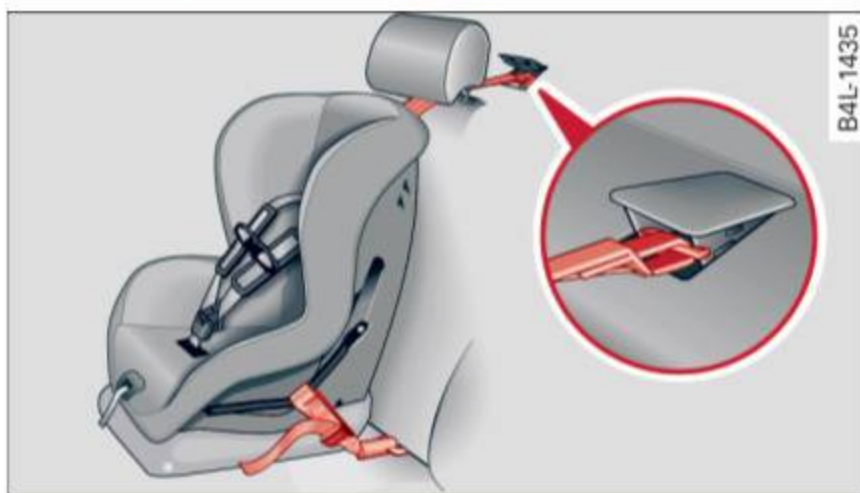

Fig. 151 Tether strap: proper routing and mounting
- ▶ Guide the upper tether strap **under** the rear head restraint ⇒ *fig. 151* (raise the head restraint if necessary).